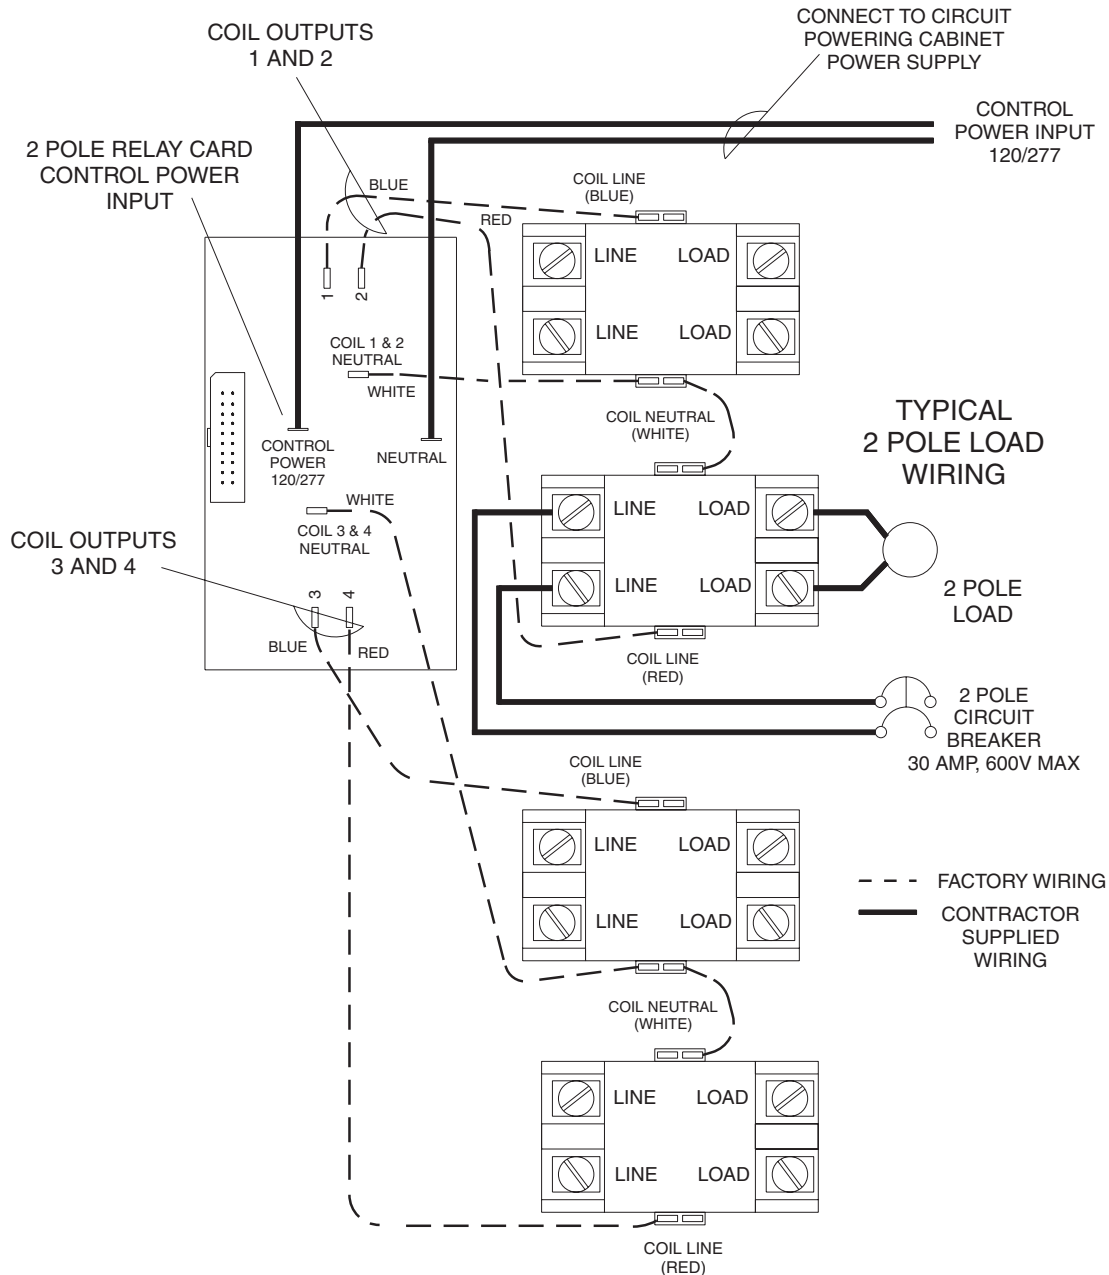

Figure 6 - Load Connections 4D (4 Double Pole)
3. Connect a 2 pole load to the 2 pole relay terminal positions labeled LOAD. See *Figure 6* for details.